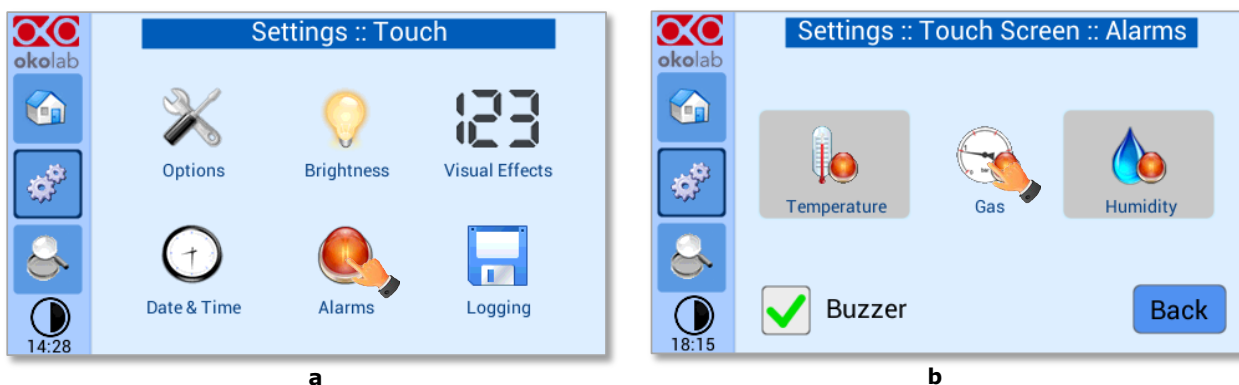

Figure 66. How to enter in Alarms page (a - b).
To set the alarms specifications, press the *Alarms* icon  (see Figure 66 a), then follow the indications below:
1. Click on the Gas icon  to set the gas deviation for a period of time then the system triggers on Alarms, as shown in the Figure 66 b.